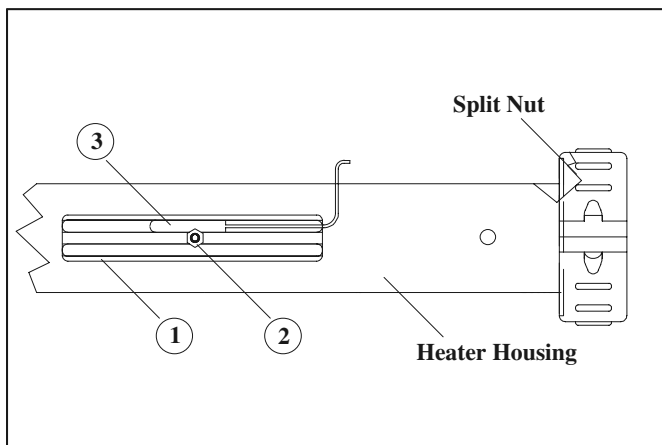

Figure 1: Typical high-limit sensor location for electric heaters
1. Locate the heater's thermal well cover (#1) and loosen the #10-32 nut (#2). See Figure 1 below.